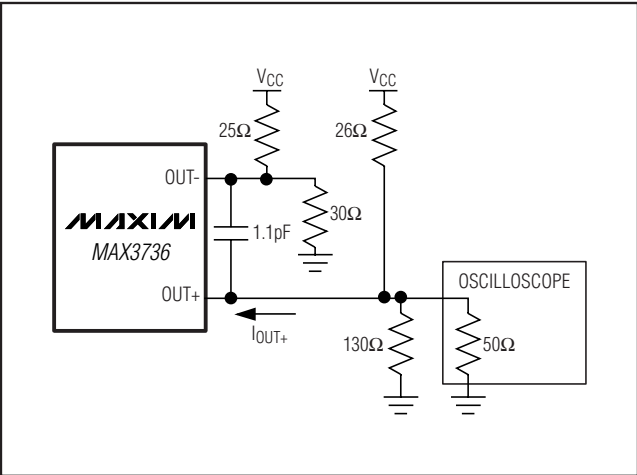

Figure 2. Output Termination for Characterization
**Note 5:** Guaranteed by design and characterization; see Figure 2.